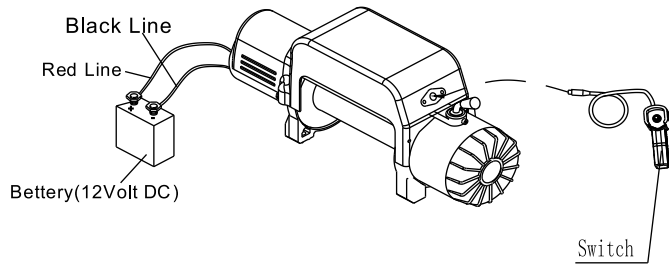

Fig.1
Connect the red wire to the positive (1) terminal and the green (or black) wire to the negative (2) terminal of the battery. (See Fig. 1).